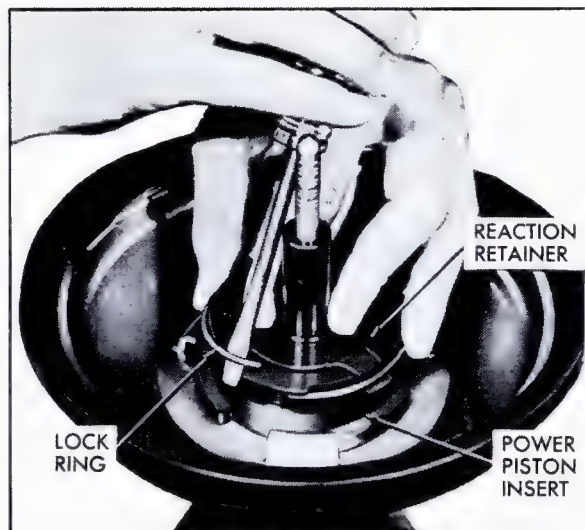

Fig. 5-26 Installing Power Piston Lock Ring
20. Place lock ring over reaction retainer. Press down and hold reaction retainer while installing lock ring by starting one end of ring under large divided locking ear on power piston insert. Complete installation by working ring over and under appropriate locking ears, Fig. 5-26.